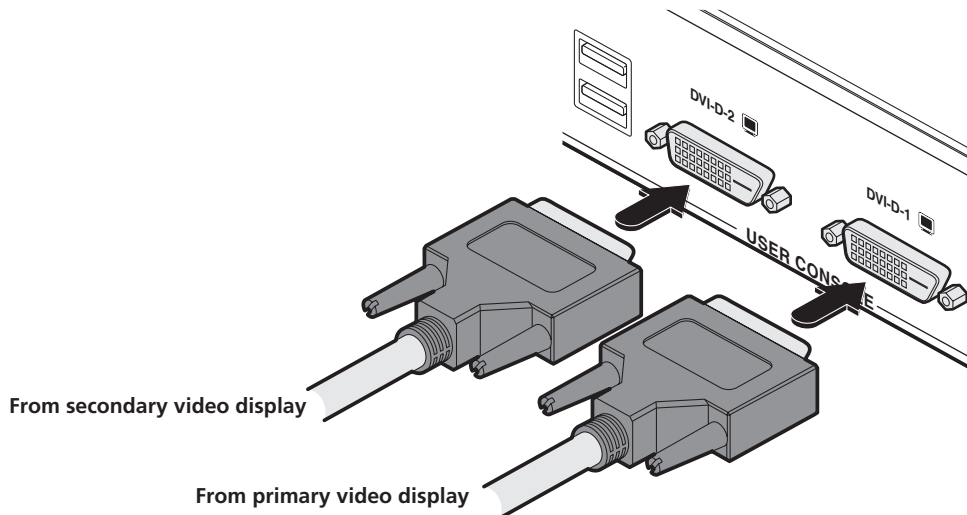

Figure 3-18. Connect two standard DVI-D link cables to the DVI-D-1 and DVI-D-2 sockets.
- 1 Connect your primary DVI display to the DVI-D-1 socket and your second DVI display to the DVI-D-2 socket on the Remote unit rear panel. See Figure 3-18.